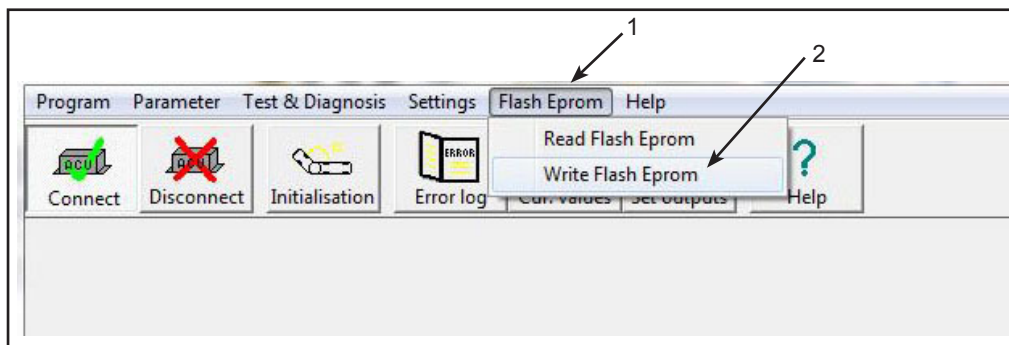

Figure 7 - Hübner Software Top Menu
1.12. Select FLASH EPROM (1) from the Hübner software top menu. See Figure 7.
1.13. Click on WRITE FLASH EPROM (2) in the sub-menu. See Figure 7.
If you can't access WRITE FLASH EPROM (2), (see Figure 7), contact your Nova Bus customer support manager.